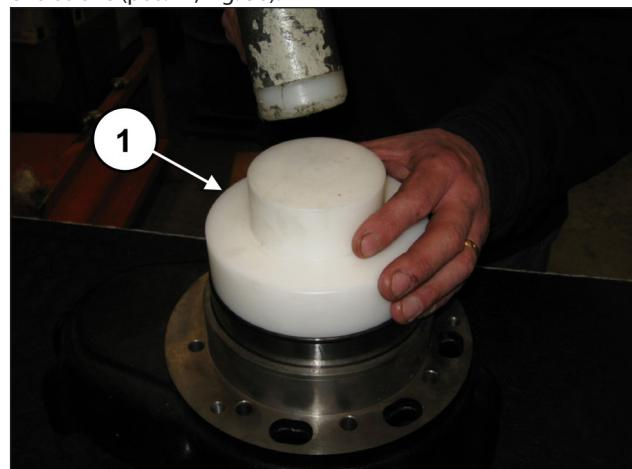
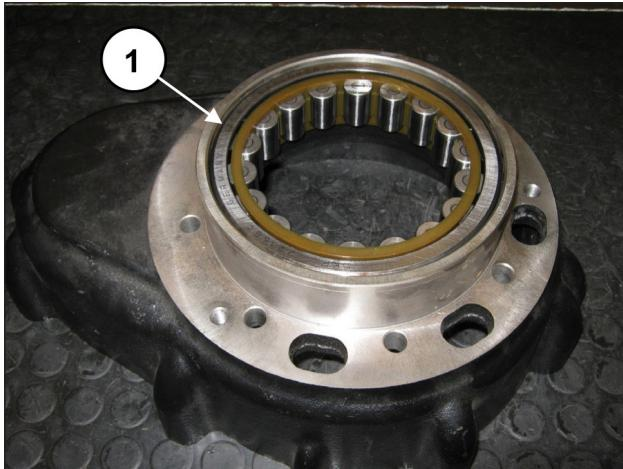

Fig. 55
Fig. 56
From the opposite side of the reduction gear box, pre-assemble the external ring of the crankshaft bearing using the tool code 27605000 (pos. ①, Fig. 55) inserting fully down to end stroke (pos. ①, Fig. 56).